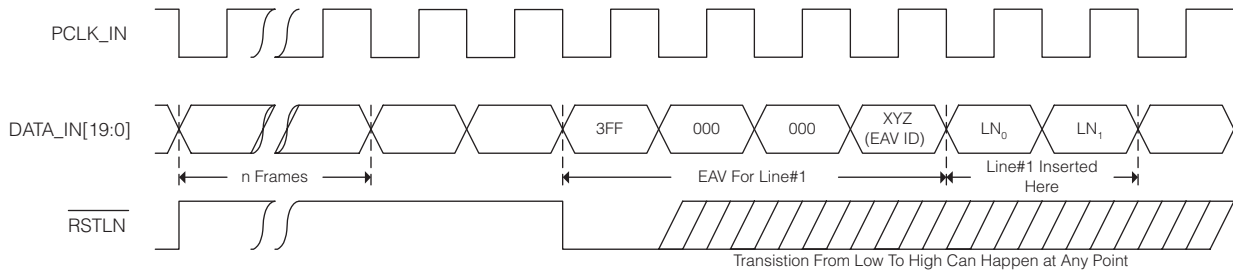

Fig. 2 RSTLN Timing
| 9   | $\overline{\text{RSTLN}}$    | Synchronous wrt PCLK_IN | Input  | Control Signal Input. Line number reset signal which must be asserted once per frame at the beginning of the frame (for example, on the falling edge of the F signal). A high to low transition will reset the line number counter of the device to one (1). See Figure 2 for timing.  |